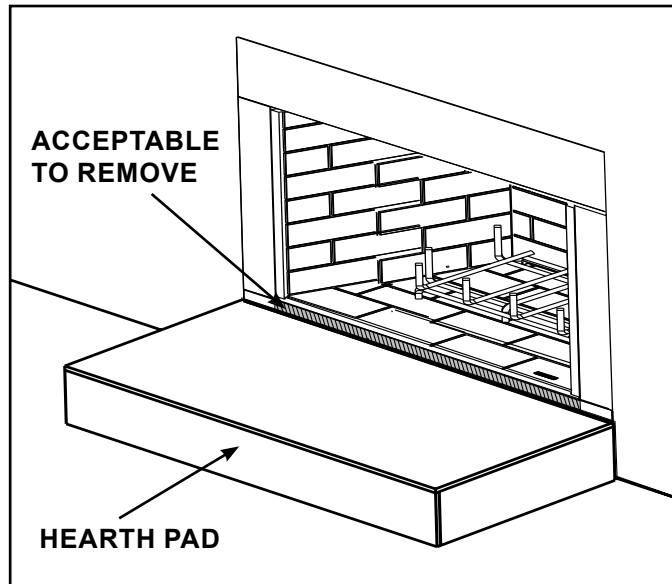

Figure 3.4 Solid Fuel Firebox
- A metal lip protruding above the hearth pad of the solid fuel firebox may be removed. See Figure 3.4.